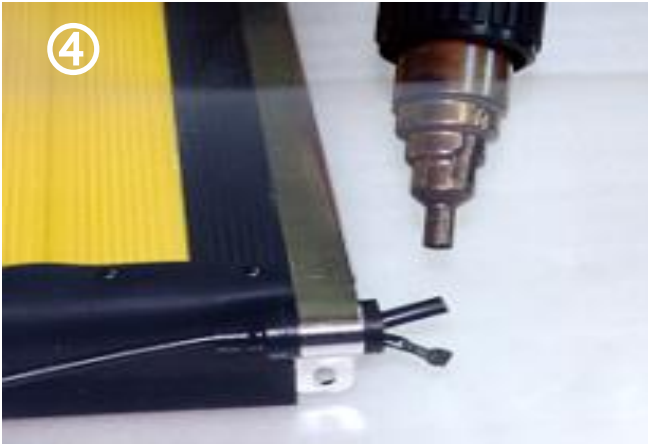

Figure 20 - Maintenance / Contact replacement IV
- Extract the tube from the duct and shrink it with a dryer as per Figure 20 (maintenance material 2924.621 or 2924.622).
- Replace cap (2).
5.2.4 Replacement of a PVC profile (4)
| Figure 20 - Maintenance / Contact replacement IV | 14 |